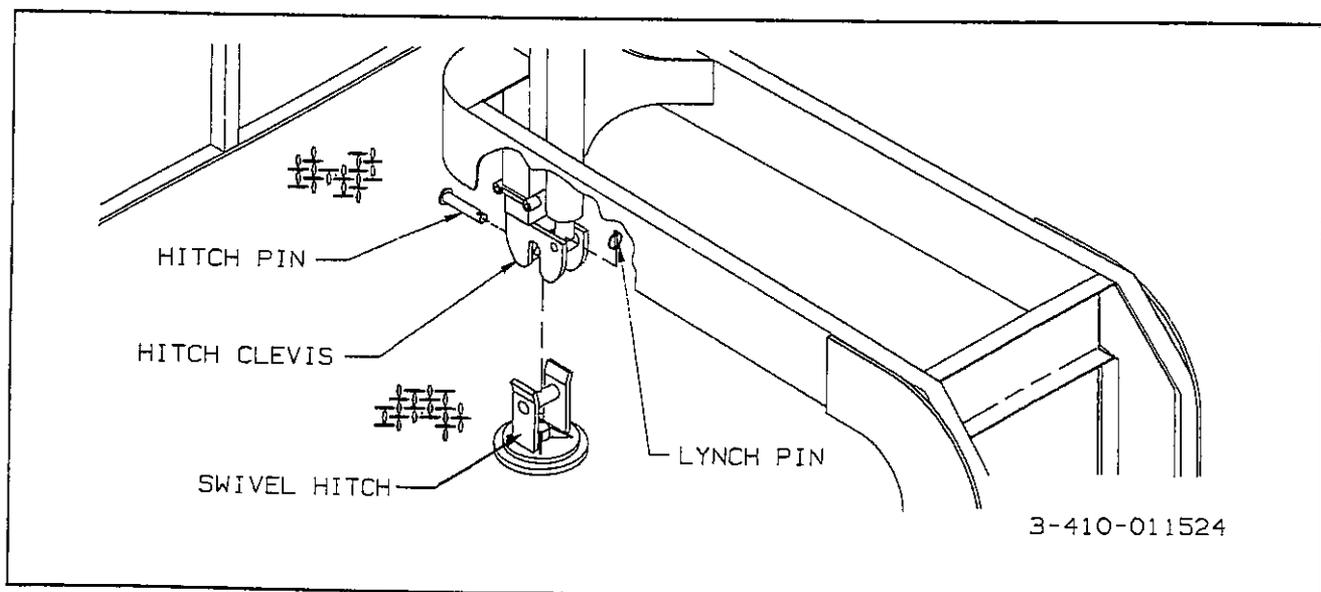

Figure 3-1 Swivel Hitch Coupling
a. **Swivel Hitch** (see Figure 3-1). With the hydraulic power operating, use the **5th Wheel** lever to lower the hitch clevis onto the swivel hitch. Install the hitch pin through the clevis and swivel hitch and secure with the lynch pin.